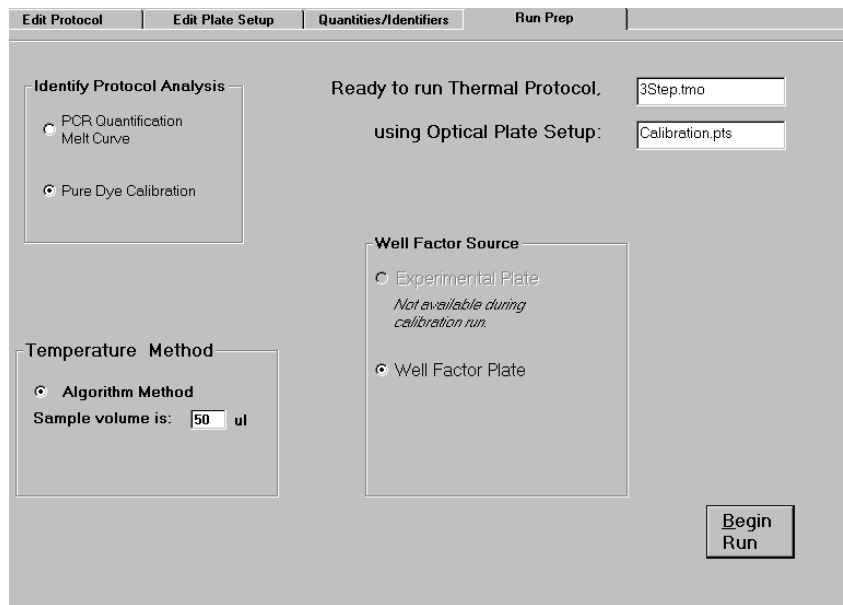

Fig. 2.1.
8. In the Run Prep tab, confirm that the desired protocol and plate setup files are selected. Enter the reaction volume. Indicate the type of protocol (PCR Quantification/Melt Curve or Pure Dye Calibration) and the Well Factor Source, then click **Begin Run**. (Figure 2.1)
The better and easier source of well factors is the actual experimental plate. Well factors collected from the experimental plate are called dynamic well factors. The only requirement for using dynamic well factors is that *each monitored well must contain the same composition of fluorophores*. Within each dye layer the fluorophore must be present at the same concentration, however, all dye layers need not have the same concentration. If all the wells on a plate have, for example, 50 nM fluorescein, 100 nM HEX, 125 nM Texas Red and 200 nM Cy5, you can use dynamic well factors because the fluorophore composition is the same in every well. If some of the wells have 100 nM fluorescein and others have 200 nM fluorescein, then you cannot use dynamic well factors and you must use external well factors. Collection of dynamic well factors is a completely automated process initiated by clicking the Experimental Plate radio button in the Well Factor Source box of the Run Prep screen (see Figure 2.1).